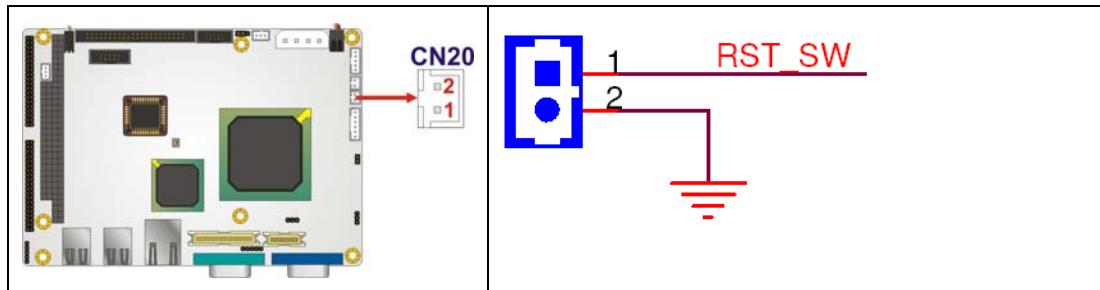

Figure 4-15: Reset Button Connector Locations
4.2.13 Reset Button Connector**CN Label:** CN20**CN Type:** 2-pin wafer (1x2)**CN Location:** See **Figure 4-15**